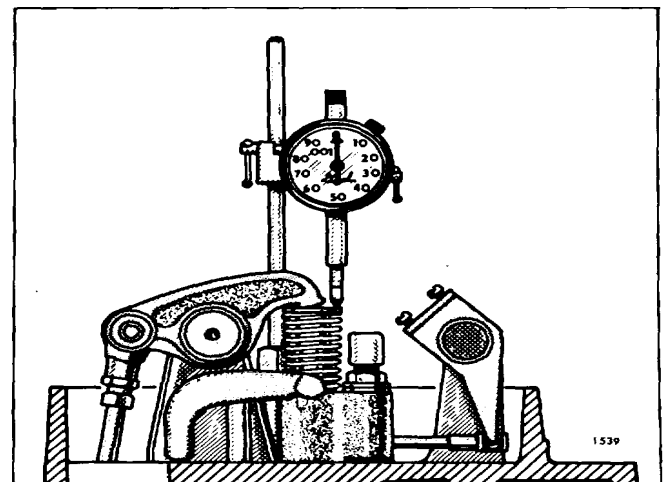

Fig. 3 - Checking Engine Timing By Measuring Injector Depression
17. Install the dial indicator again so the spindle of the indicator rests on top of the injector follower as illustrated in Fig. 3. Set the indicator dial to "0". Rotate the crankshaft slowly in the direction of rotation, and stop when the TDC mark on the vibration damper or crankshaft pulley lines up with the pointer.